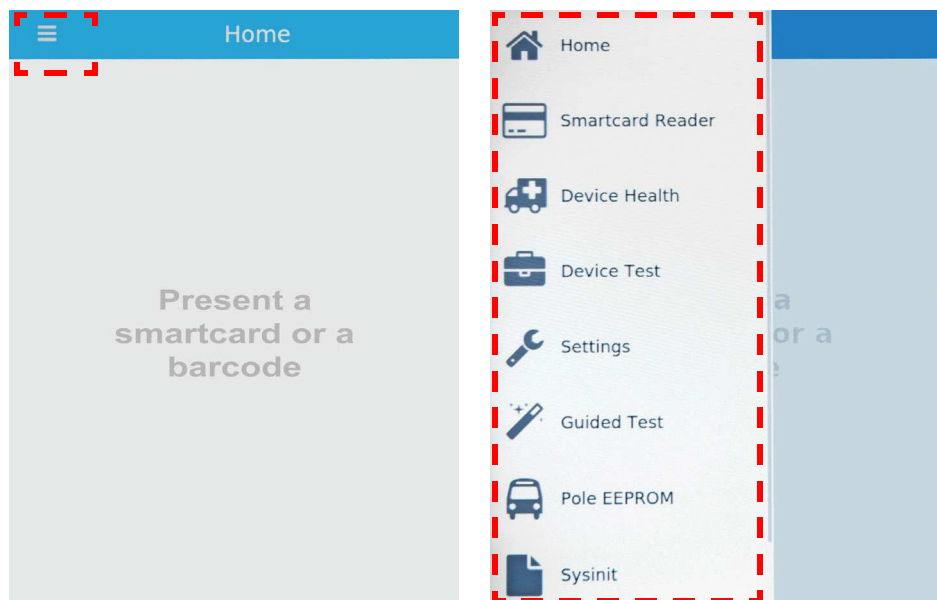

Figure 4-1 BAT 1
- Step 3** Choose the menu in the upper left corner of the home screen (see **Figure 4-1**).